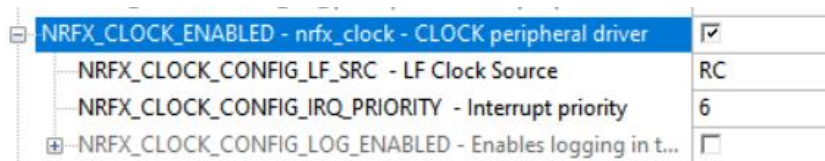

Figure 5.1: NRFX_CLOCK_ENABLED
- Unfold "nRF_Drivers"->"NRFX_CLOCK_ENABLED"Please modify as shown in Figure 5.1: